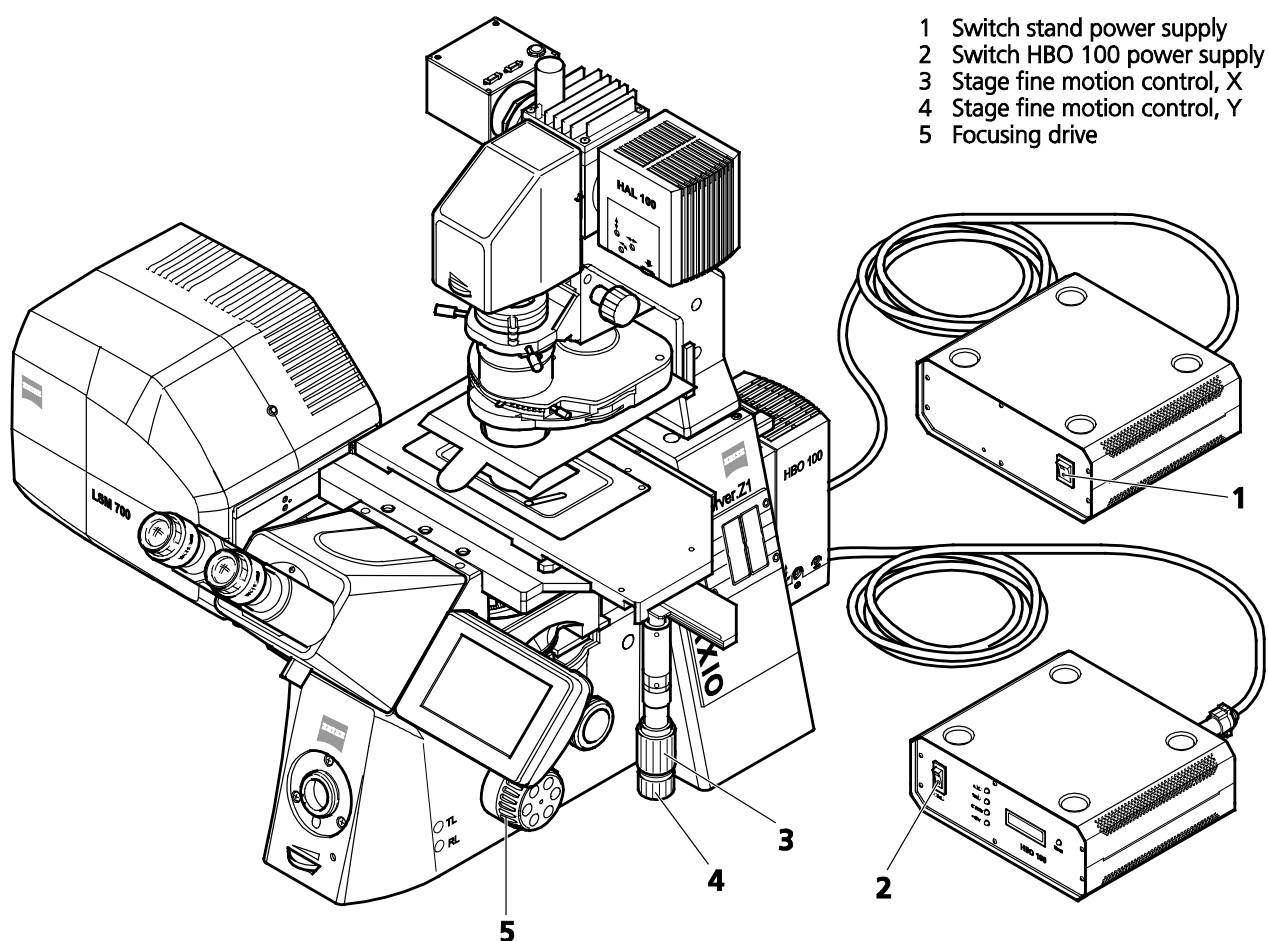

Fig. 41 LSM 700 with Axio Observer.Z1
- Use the focusing drive (Fig. 41/5) to focus the required specimen plane.
- Select specimen detail by moving the stage in X and Y via the XY stage fine motion control (Fig. 41/3 and 4).
(2) Microscope settings on Axio Observer for transmitted-light observation
(3) Microscope settings on Axio Observer for reflected-light observation (Epi-fluorescence)
- Turn on the HBO 100 power supply switch (Fig. 41/2).